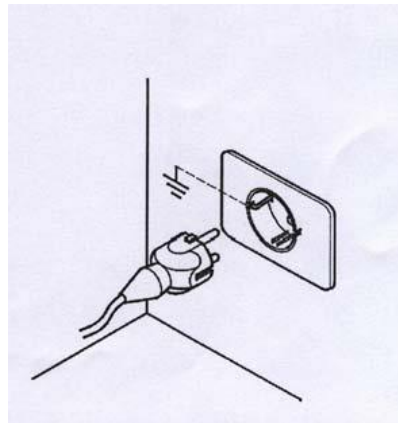

Figure 12: Connection to wall socket
- Plug the stove into an outlet that is grounded. Figure 12.